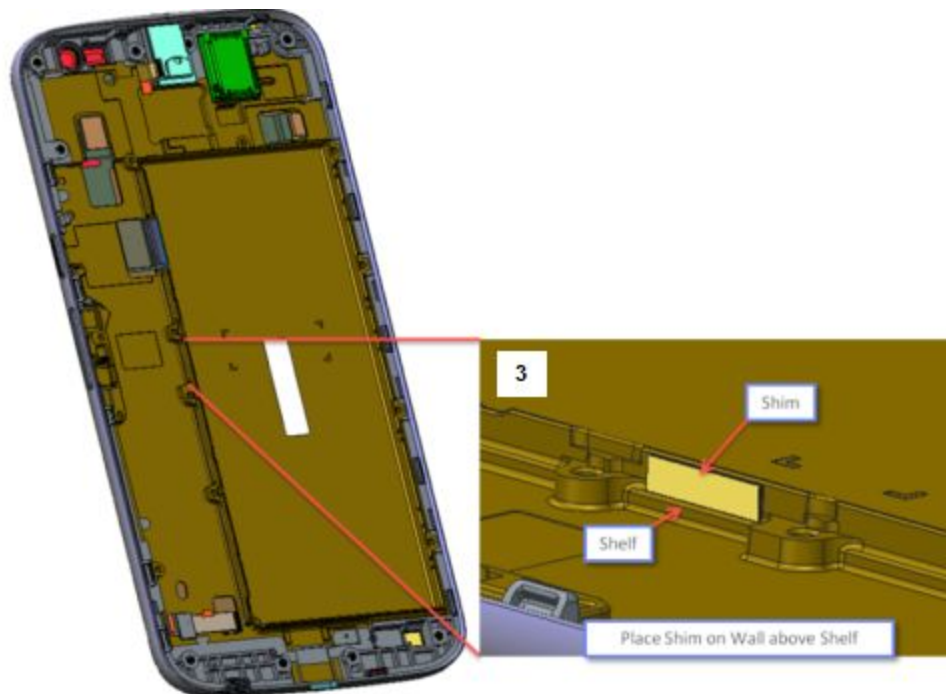

Figure 2.0 - Side-Key Kapton Shim Placement
As of 5/31/16, the factory added a Side-Key Kapton Shim (p/n: 11018240001) to the Assembly Process to help better align the side-key button plungers to the SMT switches on the PCBA. See Figure 2.0 below.
1. Inspect for and place if necessary the Side-Key Kapton Shim (p/n: 11018240001) prior to reassembly. See Figure 2.0 above.